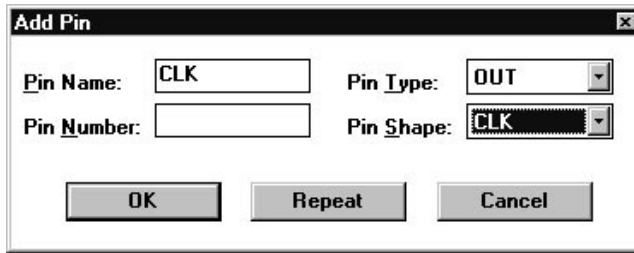

Figure 2-11. Entering Symbol Pins.
- Define PWR pins as INPUT if you want them visible. Assigning to them the PWR status (in **Pin_Type** field in Figure 2-11) will make them invisible.